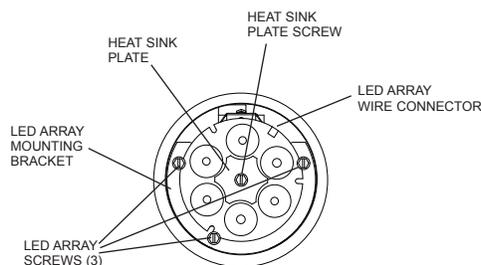

FIG. 2
2. Remove the lens assembly by rotating the end cap counter clockwise (Fig. 2).
3. Remove three LED array screws (Fig. 2). Keep screws for later assembly.
5. Disconnect power supply wires by disengaging the connector from the LED array wire connector (Fig. 2). Note: Firmly hold the LED array and gently pull wire by clasping the wire connector.
6. Remove the heat sink plate screw and heat sink plate to disengage the heat sink from the LED array (Fig. 2).
7. Secure the replacement LED array to the heat sink by replacing the heat sink plate and screw from step 5 (Fig. 2). Note: Make sure that the LED array wire connection is oriented away from the wall bracket as illustrated in Fig. 2.
8. Connect the power supply to the LED array and slide LED array assembly into fixture (Fig. 2). * Note: Hold the wire connector firmly when engaging with LED array connector. Ensure proper pin and guide slot orientation and secure firmly.
9. Secure the LED array assembly to the LED array mounting bracket with three screws from step 2 (Fig. 2).
5. Disconnect LED power supply wires by disengaging the connector from the LED array wire connector and the driver. Disconnect black and white power supply leads from the driver (Fig. 2).
10. Secure LED array to the mounting bracket with three screws from step 2.(Fig.2)